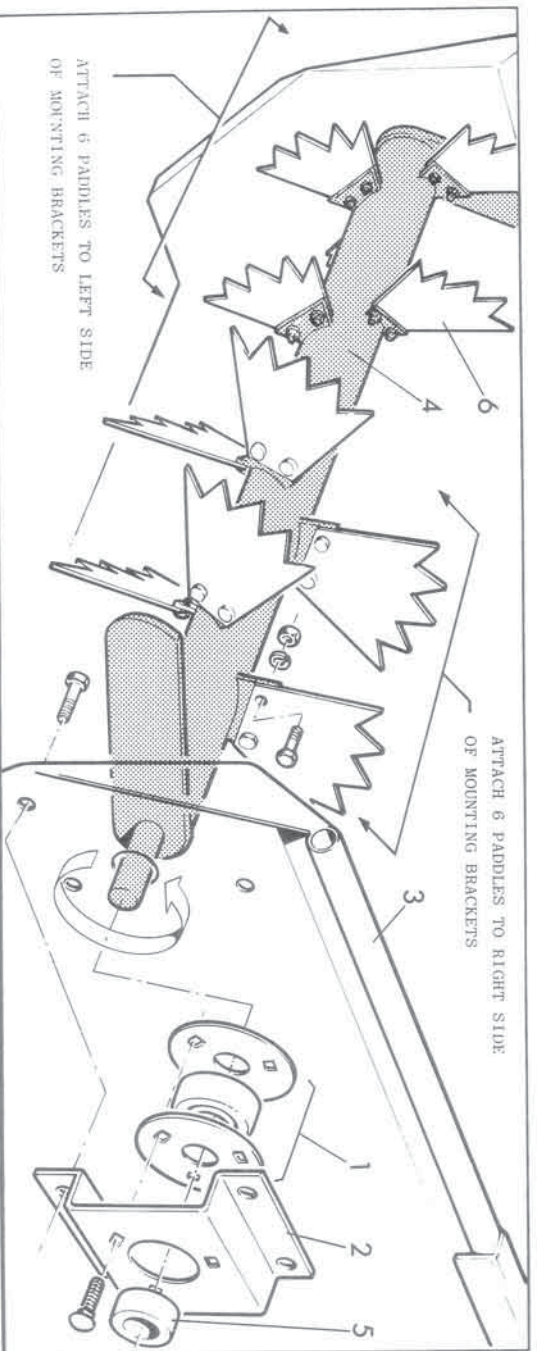

Figure 12
**BEATER ASSEMBLY - Figure 12**